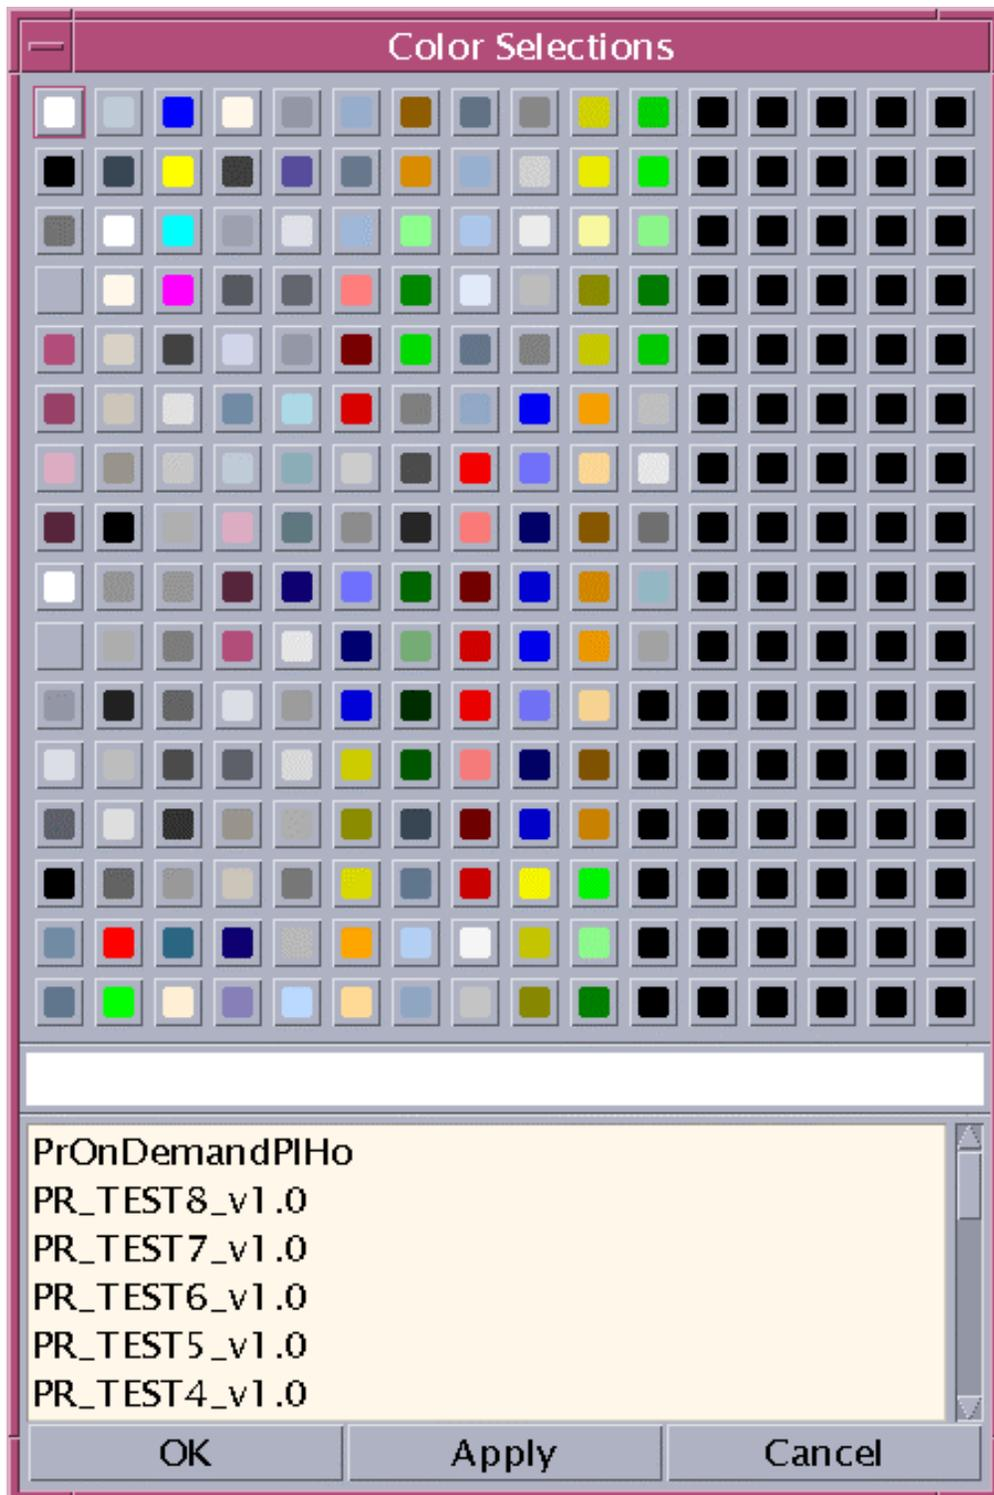

Figure 39. Color Selections Window
- The **Color Selections** window (Figure 39) is displayed.